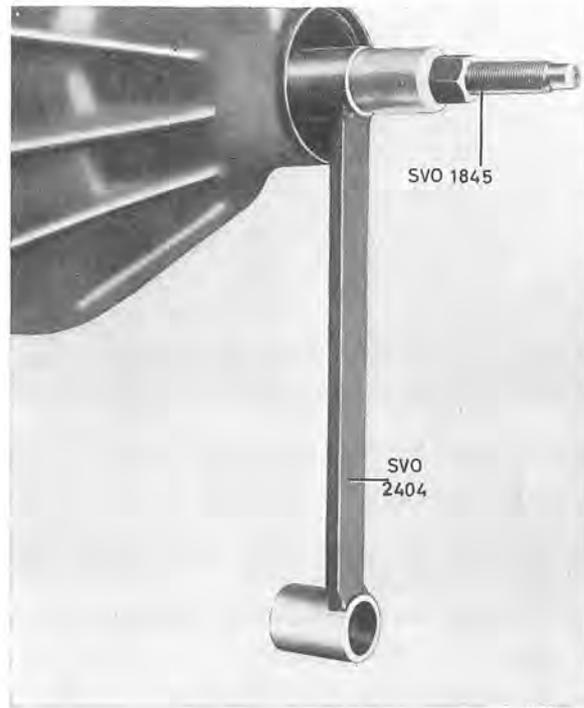

Fig. 4-159. Fitting the pinion
- Insert the pinion in the casing and fit on three 0.75 mm (0.03") thick shims and the front pinion bearing. Fit tool SVO 2404 and press tool SVO 1845 on the front end of the pinion and pull in the pinion, see Fig. 4-159. Apply the nut tightener until it must press the pinion forwards so that it does not strike against the bearing positions.